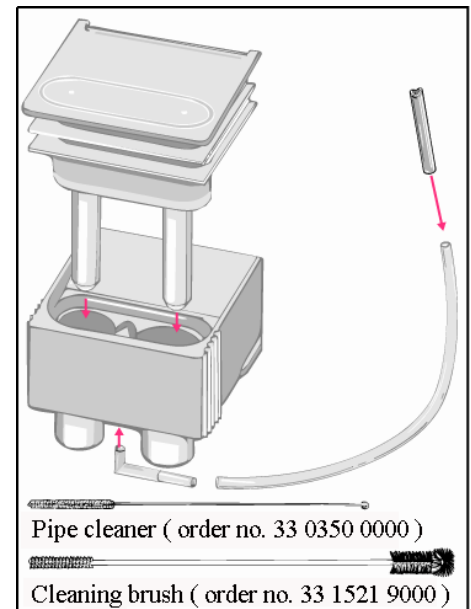

**Figure 12**
2. Remove the milk intake hose from the clamping valve by pulling both ends of the milk intake hose forward and lifting it up out of the bracket (see Fig. 12).